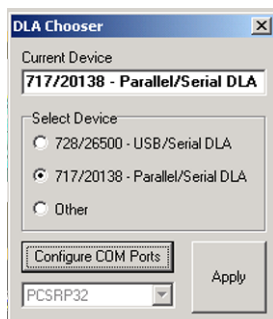

Fig 7.
- 3 Make sure that the correct DLA is selected in the chooser. Click on 'Utilities', DLA Setup. The DLA Chooser window opens. Check the button to match to the Current Device. Click 'Apply'. ⇒ Fig 7. \(M2-11\)